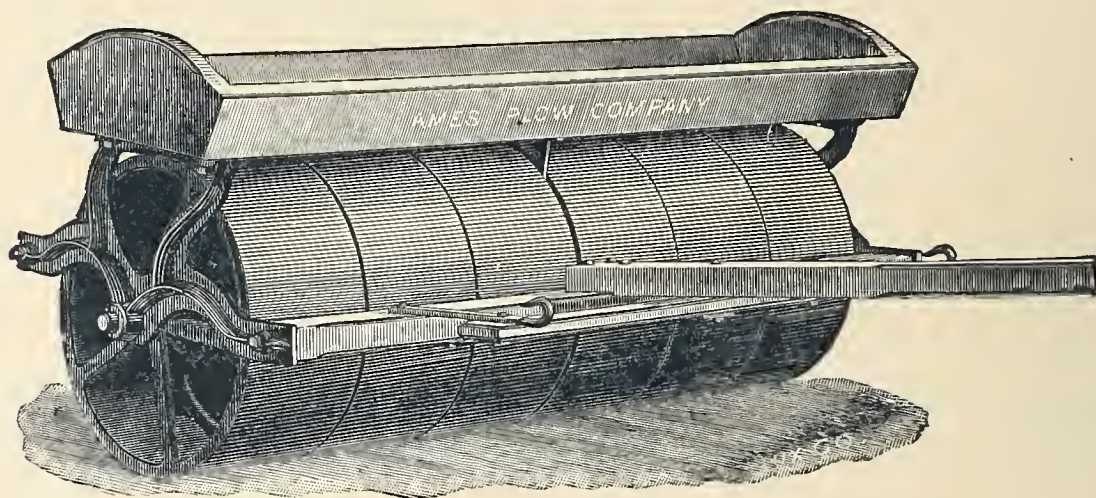

Fig. 341. — Iron Field-Roller.
*The Field-Roller*, represented by *Fig. 341*, is used on plowed land, to level and smooth it after sowing down to grass, forcing sods and small stones into the soft ground, pressing the light, loose soil of the surface around the seeds of grain and grass, securing a sure and quick germination and growth of the seeds, and preparing